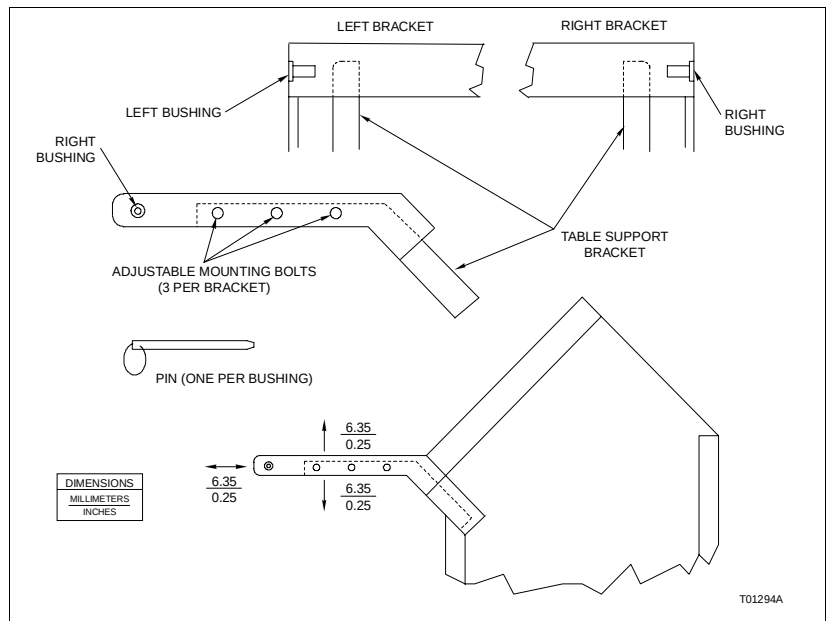

Figure PR3-1. Connecting Console Components
1. The work surface is bolted to the table support brackets through oversized holes. Use the ½-inch open end wrench to loosen the six bolts (three per table support bracket as shown in Fig. PR3-1).